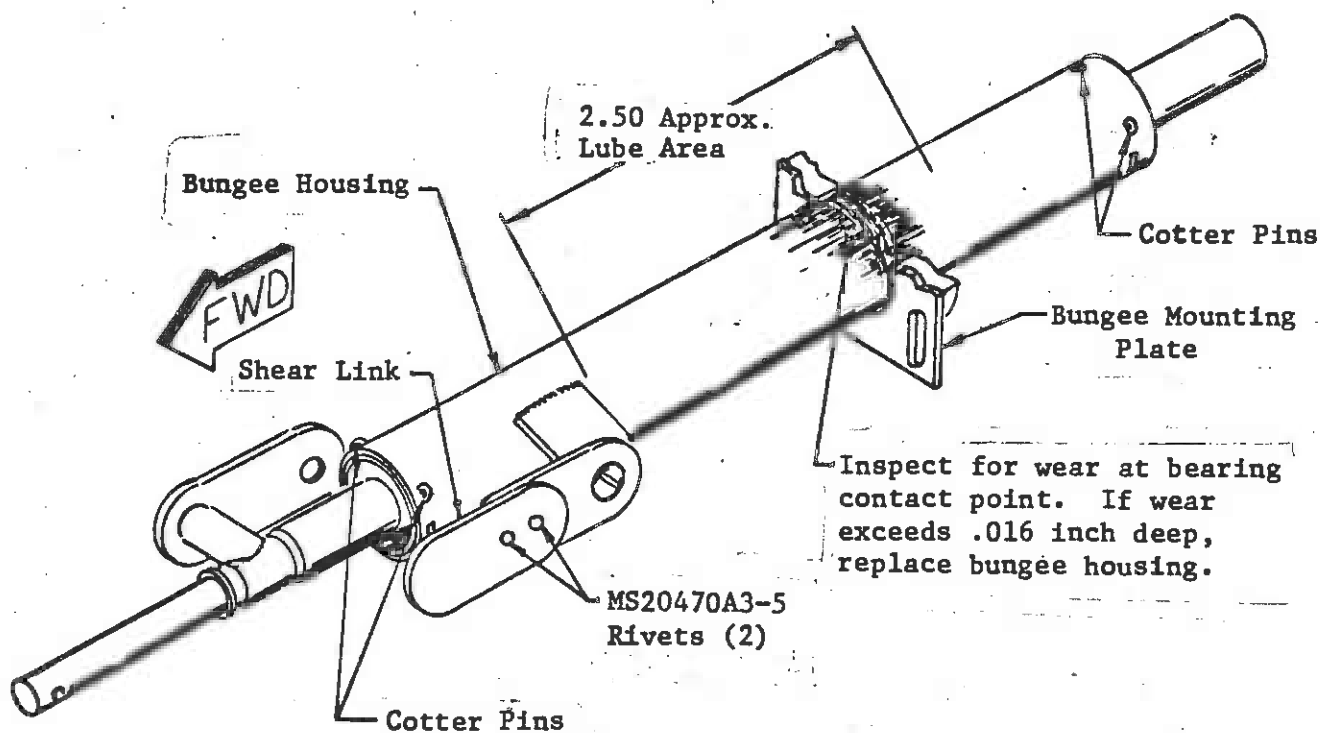

Figure 1. Bungee Assembly
Field reports indicate that on aircraft with 500 or more hours, the bungee housing outer surface may show excessive wear at the support bearing, or the rivets, which secure the shear link, may have become loose (See Figure 1).
3. Remove the four (4) cotter pins securing the bungee housing to the bungee shaft assembly and discard them.
4. Remove the two (2) bolts and nuts holding the bungee mounting plate and slide the plate off the housing assembly.
5. Slide off the old bungee housing and slip on the new bungee housing assembly. Lubricate outer surface of bungee housing as shown on Figure 1 with McLube #1708 (McGee Chemical Co.) or equivalent.
6. Slide on the bungee mounting plate, line up the cotter pin holes and secure the housing assembly with four (4) cotter pins (AN380-2-4) furnished. If needed, cotter pin holes may be cleaned up with a #50 (.070 dia.) drill.